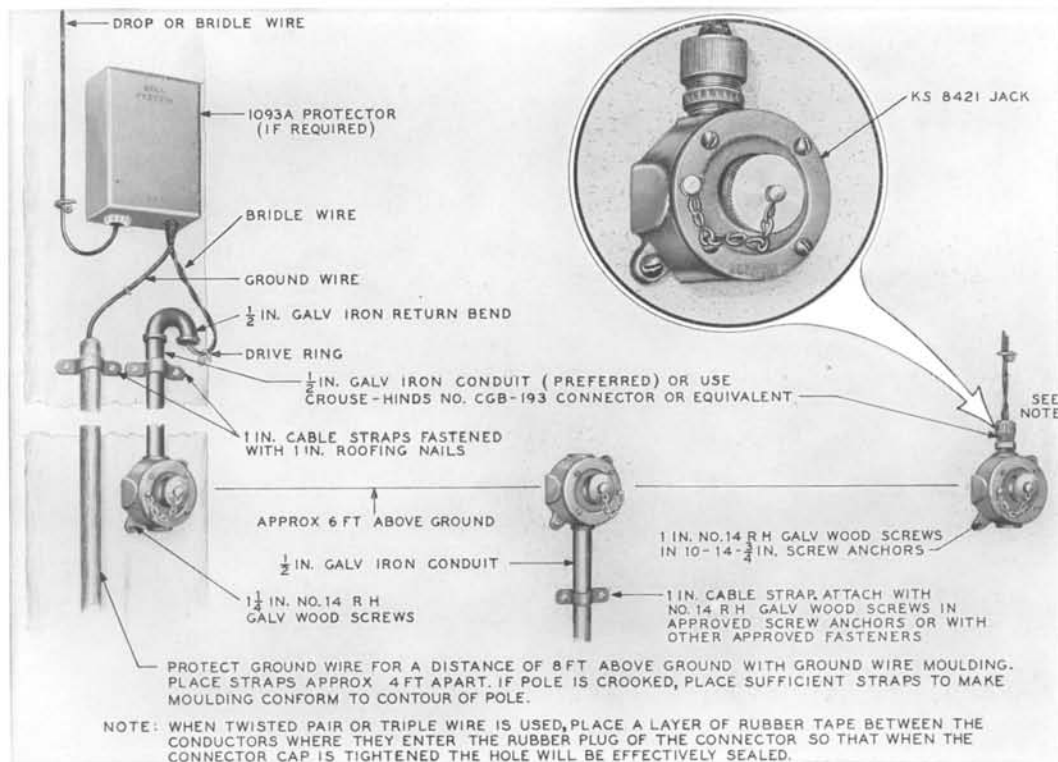

FIG. 25—TYPICAL INSTALLATION OF KS-8421 JACK
11.05 Install the KS-8421 jack, as shown in Fig. 25, and as follows:
1. Mount jack as shown in Fig. 25. Connect wire to jack.